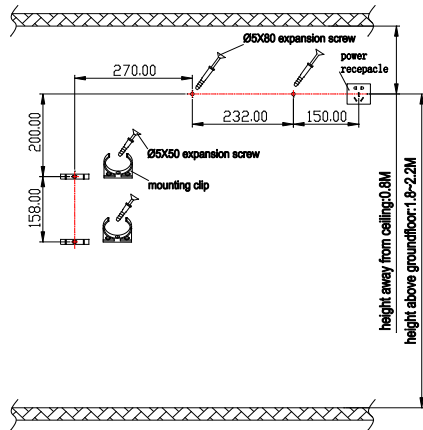

Figure 1
- ① Shown as Figure 1, put two screws into the wall (concrete wall: expansion screws(ϕ5X80); wood wall: tapping screws(ϕ5X20))
- ② All screws firmly fixed, hang the humidifier